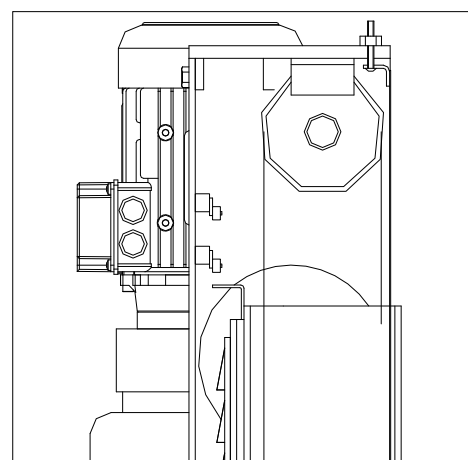

Fig. 14
- ◆ If the lift reaches to the maximum height, the up limit switch will stop the lifting. **(Fig. 14)**